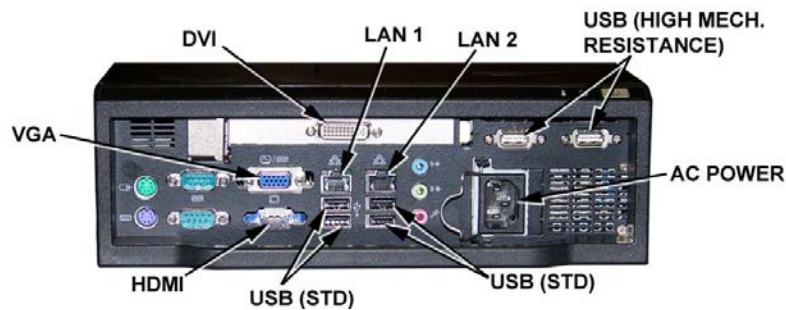

Figure A-6. HMI Server Connection Ports
5. Connect a CAT5 cable to Ethernet switch in Switchgear Box, and connect opposite end to LAN 1 port on HMI Server (Figure A-6).